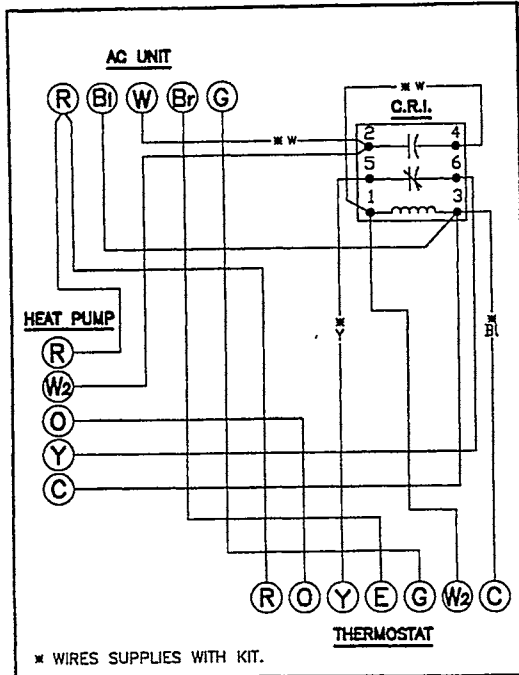
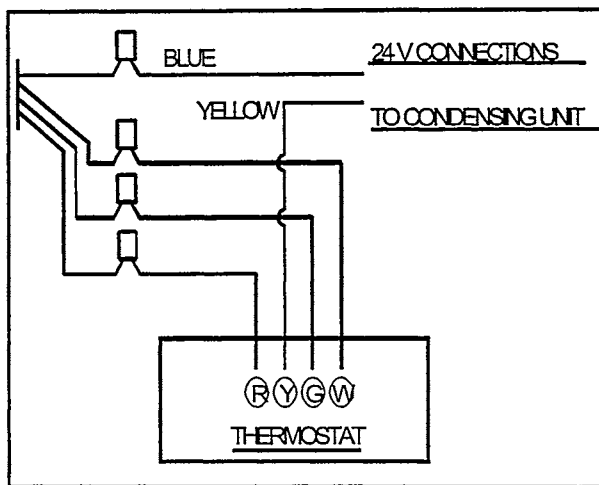

Figure 4
Figure 5
2. Low Voltage Wiring: See Figure 4 for cooling unit with electric heat, Figure 5 for heat pump with electric heat.